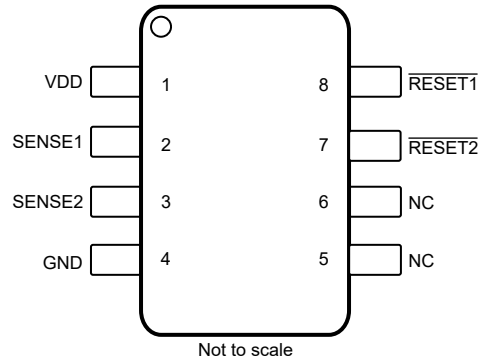

**图 4-1. Device Naming Convention**
图 4-1 shows the device naming nomenclature to compare the different device variants. See 表 9-1 for a more detailed explanation. See 表 4-1 or 表 9-2 for the available device variants.
- (2) VIT threshold of 0.8V and 0.4V signifies an adjustable channel
- (3) ADJ denotes an adjustable voltage threshold set by an external resistor divider, see Adjustable Voltage Thresholds for more information
- (4) Output type "L" designates Push Pull Active Low and "O" designates Open Drain Active Low. Reference 图 4-1 for more information